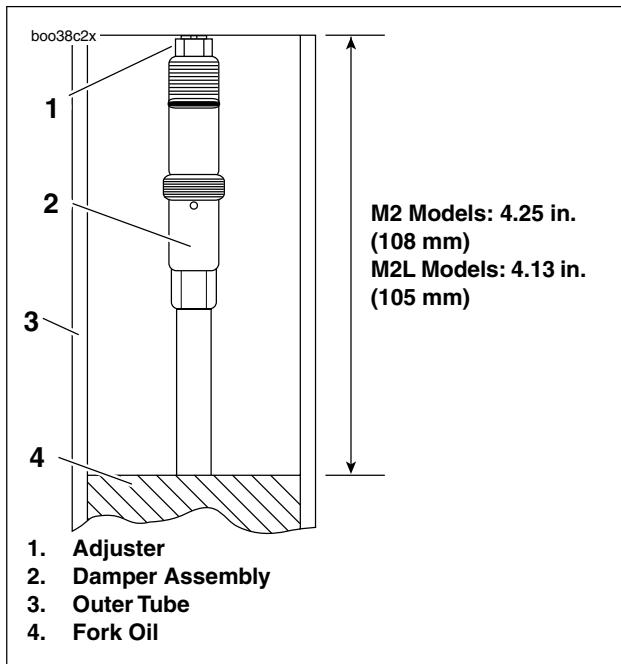

Figure 1-38. Correct Fork Oil Level
3. See Figure 1-38. Grasp damper assembly (2). Pull damper assembly upward a minimum of 10 times to bleed air from the fork.
5. See Figure 1-38. Check fork oil level.
- b. Measure distance from fork oil (4) surface to top of outer tube (3) using PRO-LEVEL OIL GAUGE (Part No. B-59000A).